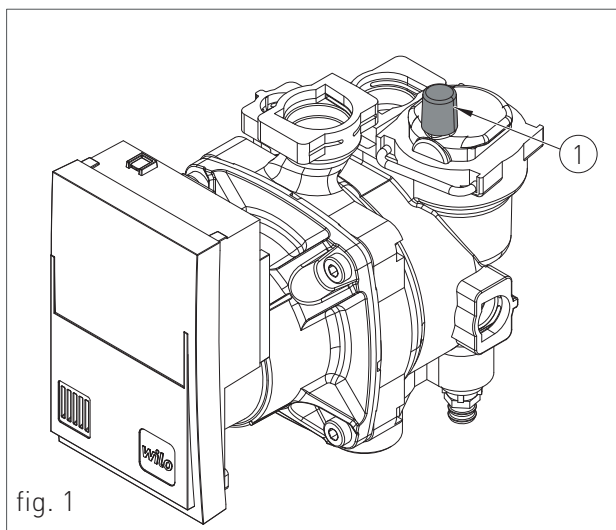

fig. 1
- > cut the fixing strip (see A-fig.1);
- > remove the cardboard box lifting it upwards (see B-fig.1);
- > push the boiler on one side and remove the pallet underneath (see C-fig.1).
In order to allow the access inside the boiler for maintenance operations, you have to respect the minimum technical spaces indicated in figure 1.
1. slightly loosen the cap of the circulator jolly valve (1-fig. 1) to release the air from the system;